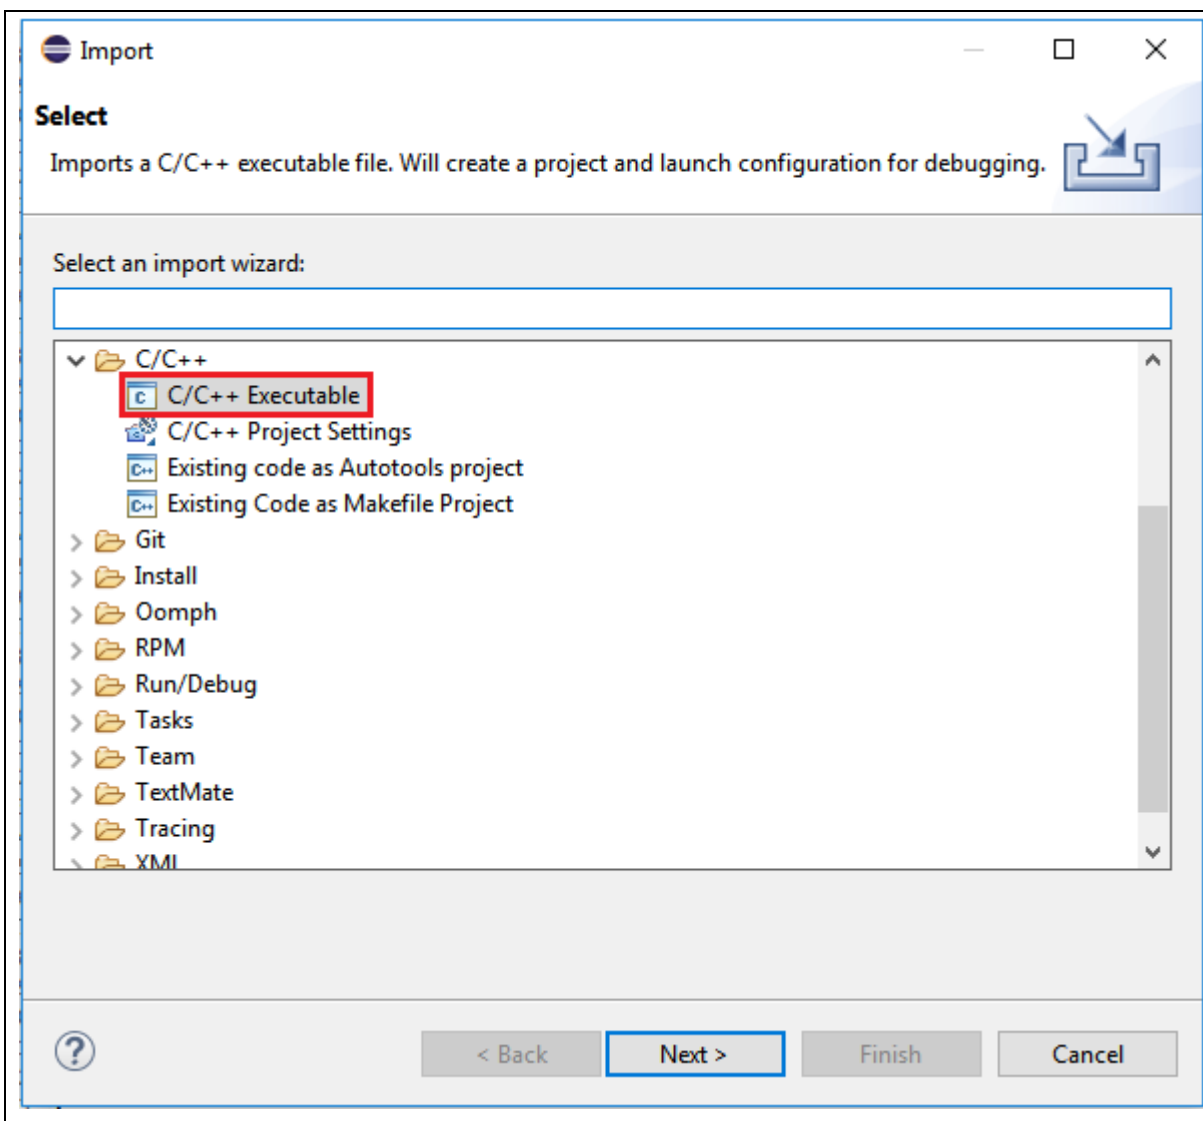

Figure 4-26 Importing Executable for Debugging
1. Import an executable for debugging (referring to Figure 4-26).